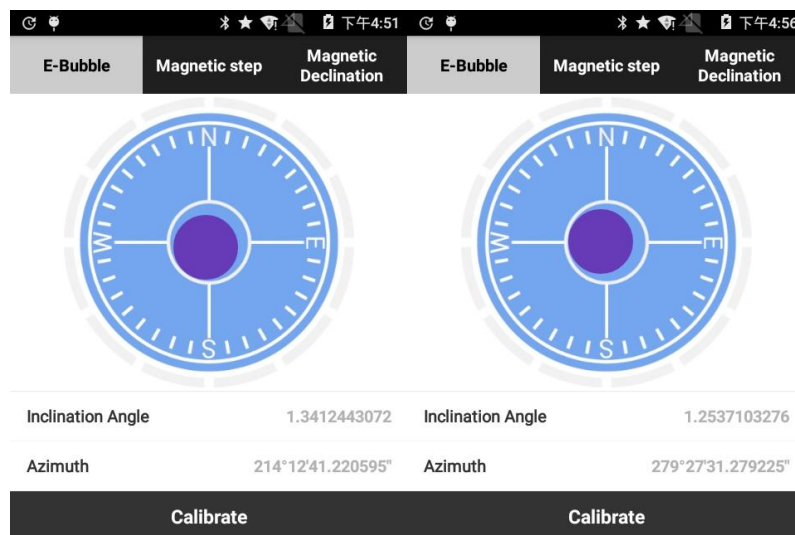

Figure 4.9-1      Figure 4.9-2
(1) Press [E-Bubble] to enter into E-Bubble calibration interface as shown in Figure 4.9-1.